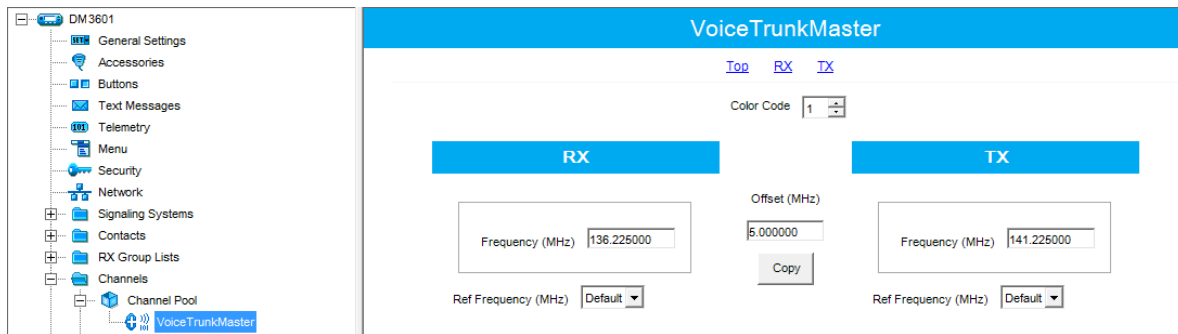

Fig. 14 - Setting frequency pair for Master repeater channel
7. In the **Channels** section create a trunk channel dedicated to GroupCall1 and do the following settings (Fig.14).